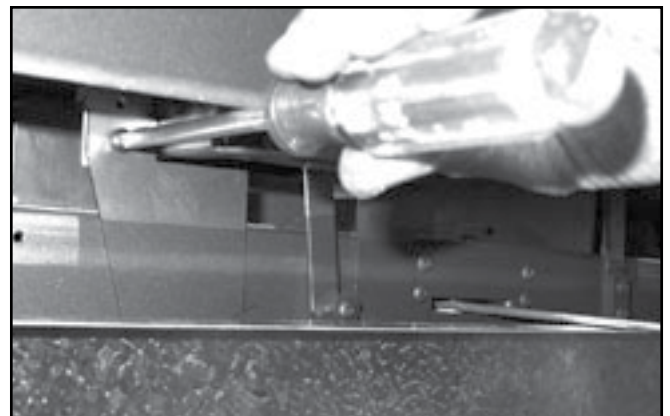

Figure 37.5
10. After re-installing the timer assembly through the firebox access door, re-attach the timer assembly to the air chamber cover using a Phillips head screw driver. Figure 37.5.